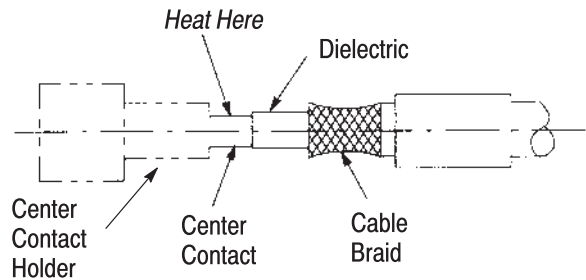

Figure 3
**2.2. Soldering the Center Contact to the Cable Inner Conductor** (Figure 3)